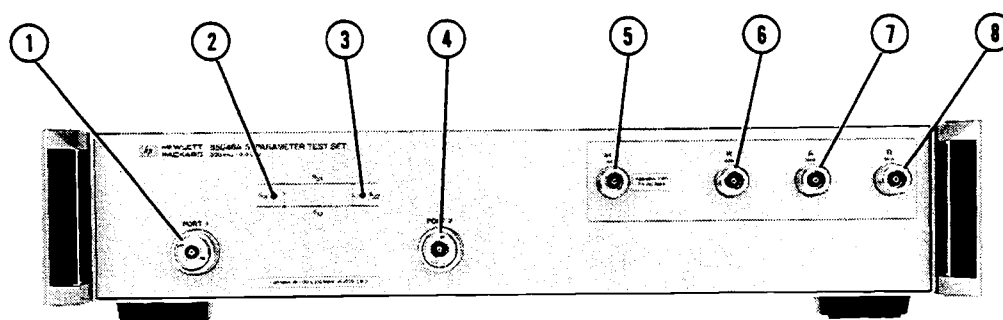
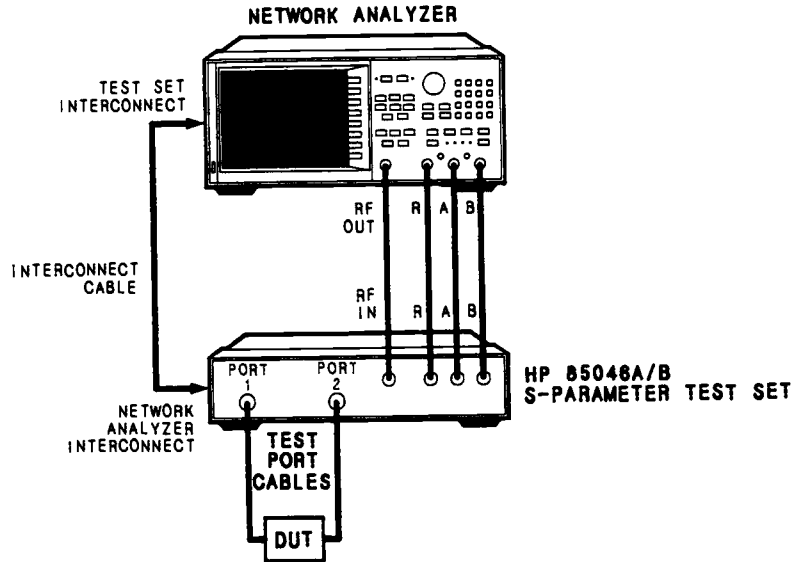
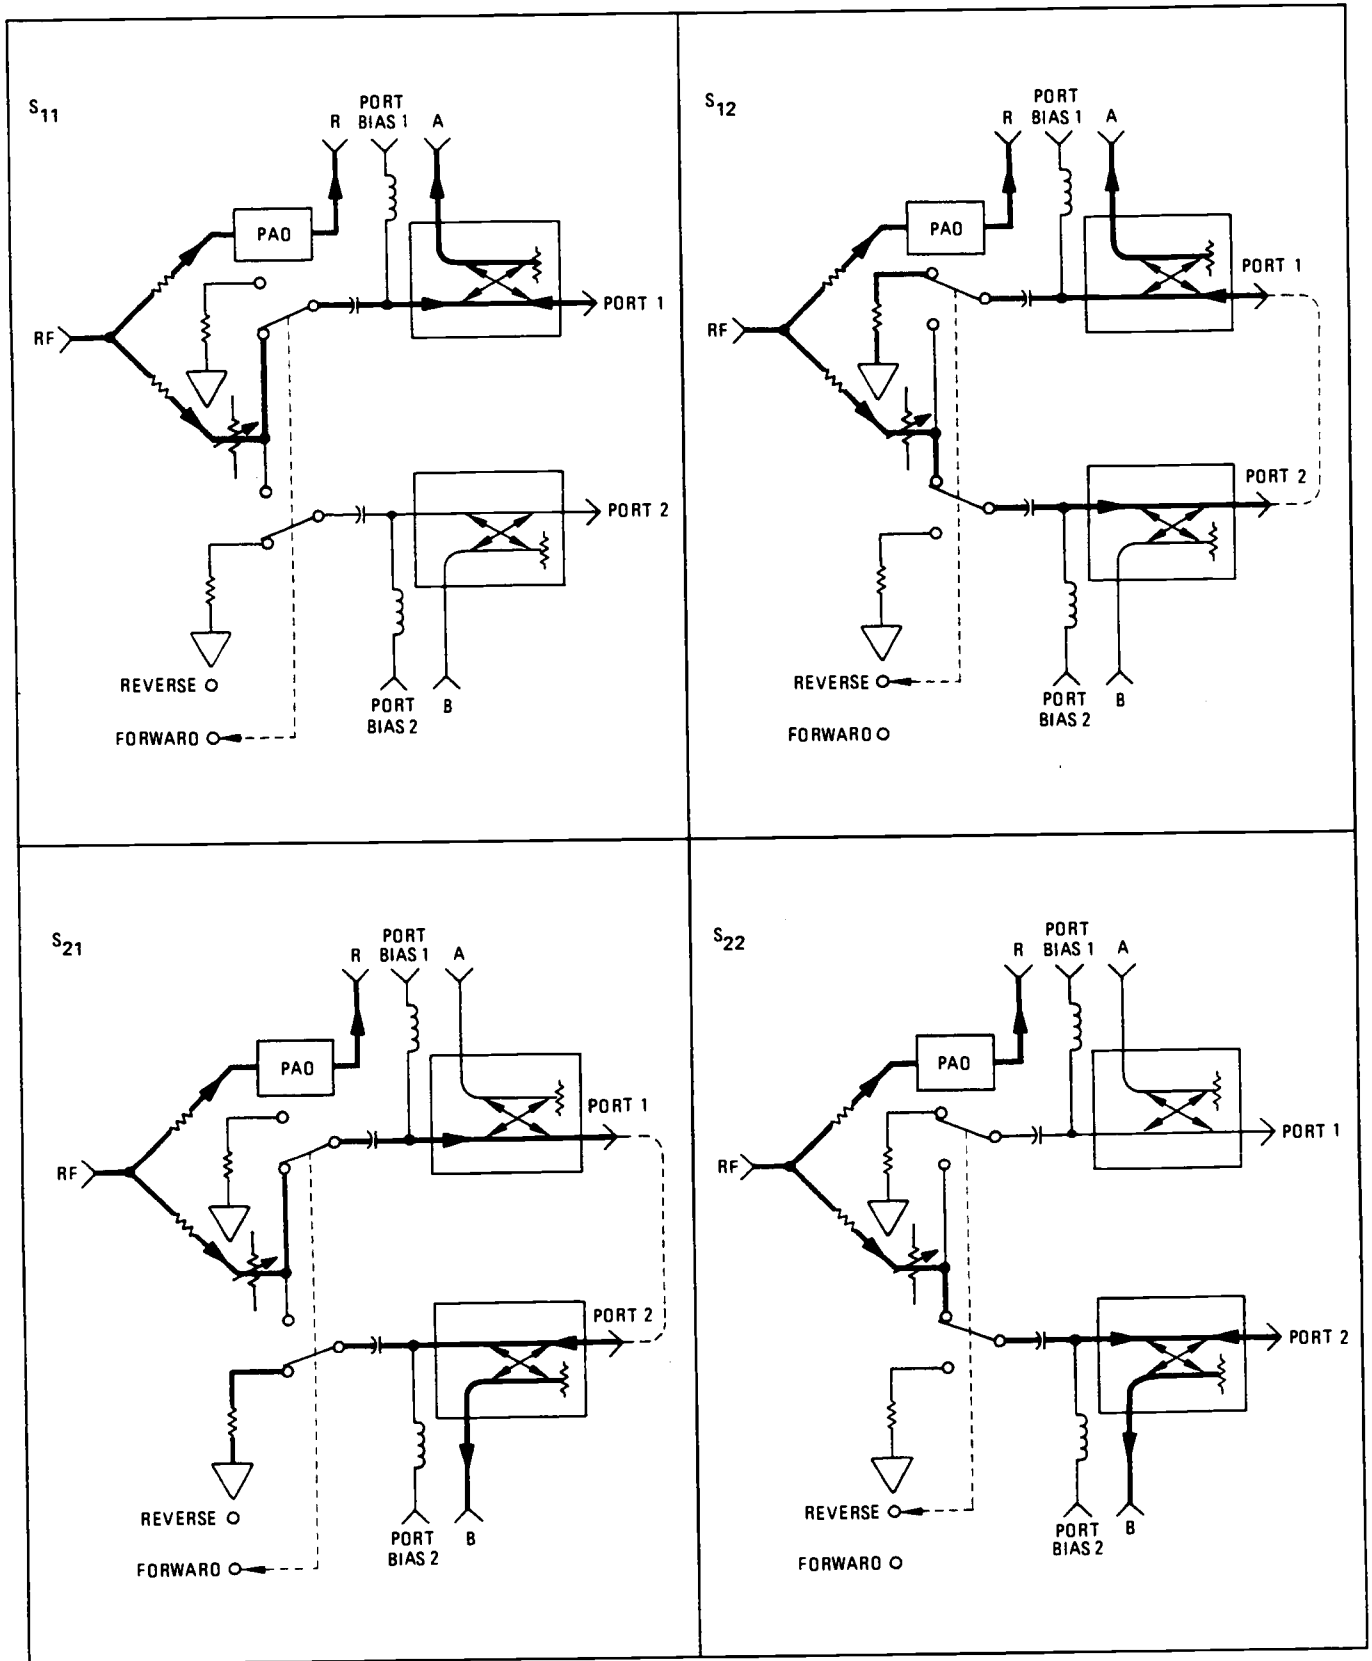

Figure 3-1. Front Panel Features
Figure 3-3. Typical Measurement Setup
Figure 3-4. RF Signal Path
This section illustrates the features and functions of the front and rear panels of the HP 85046A/B (Figures 3-1 and 3-2). Figure 3-3 shows a typical test set measurement setup. Figure 3-4 depicts the RF signal path through the test set for each of the four S-parameter measurements.
1. Connect the equipment as shown in Figure 3-3 and turn on the network analyzer but do not connect the DUT.